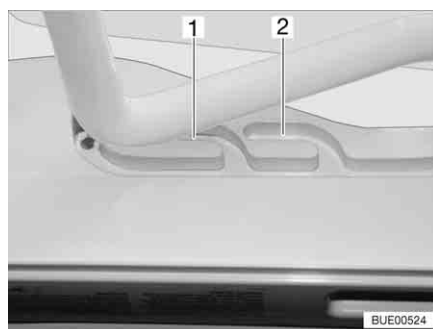
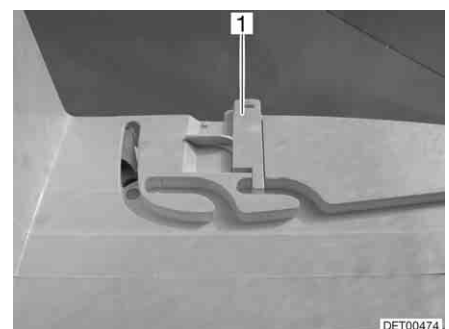

Fig. 91 Heki skylight in ventilation position
Fig. 92 Ventilation position locking mechanism
The Heki skylight can be put in two ventilation positions: Bad weather position (Fig. 91,1) and central position (Fig. 91,2). Depending on the model, the skylight can be locked in the central position with both left and right latches (Fig. 92,1) on the skylight frame.
- Push the bar slightly upwards and into the selected guide (Fig. 91,1 or 2) and lock if necessary.